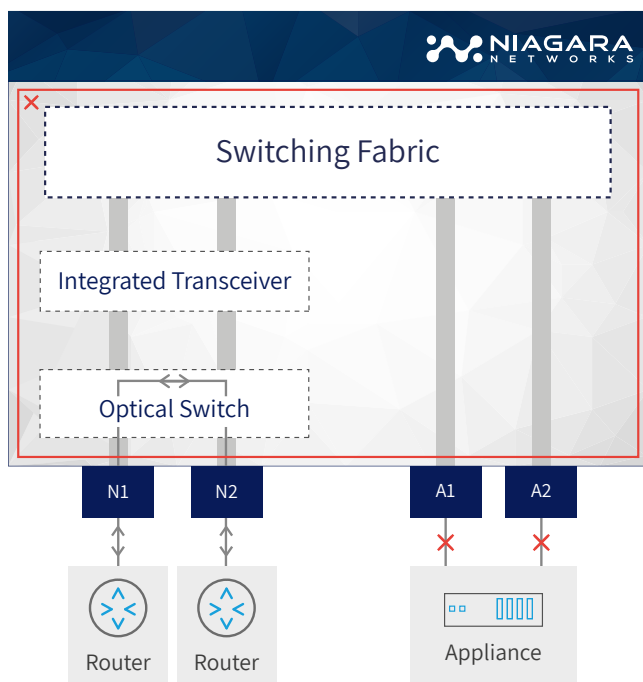

Figure 4: Power Failure Mode
**Failsafe protection** - protecting network traffic flow in the event of Network Packet Broker (NPB) failure. When power fails, as depicted in figure 4, the optical-relays ensure that the network flow continues uninterrupted. The optical relays can be configured fail open or fail close to meet specific deployment needs. An optical switch mechanism is the most reliable method for connecting inline devices to your network, while ensuring uninterrupted network services under all conditions.